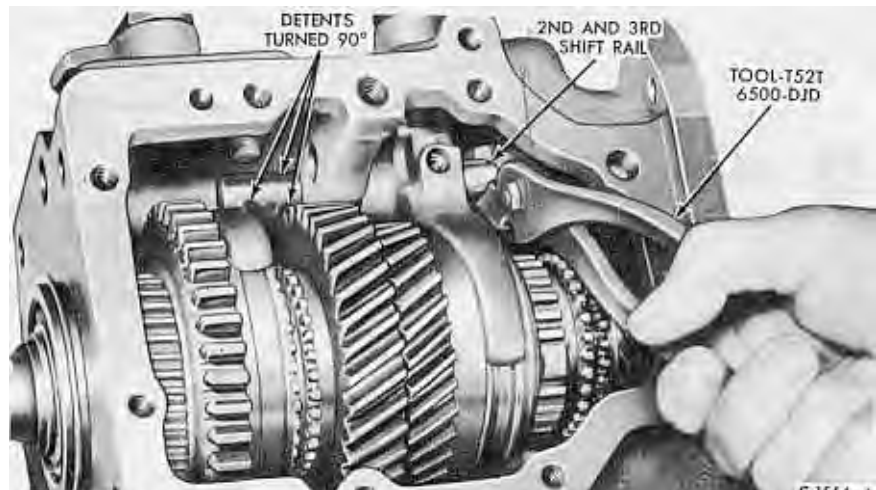

FIG. 10—Rotating Second and Third-Speed Shift Rail
13. Move the second and third-speed shift fork to the second speed position to gain access to the set screw. Remove the set screw from the fork. Rotate the shift rail 90° as shown in Fig. 10.